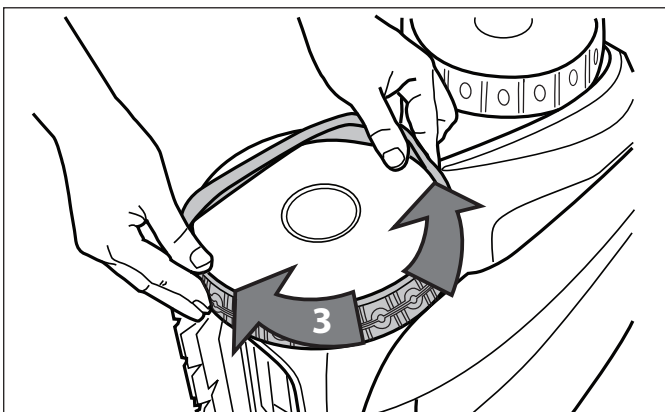

Figure 42. Work the Tyre On Around the Wheel
5. Work the tyre onto the wheel and verify the rib of the tyre is positioned properly within the groove of the wheel (Figure 42).